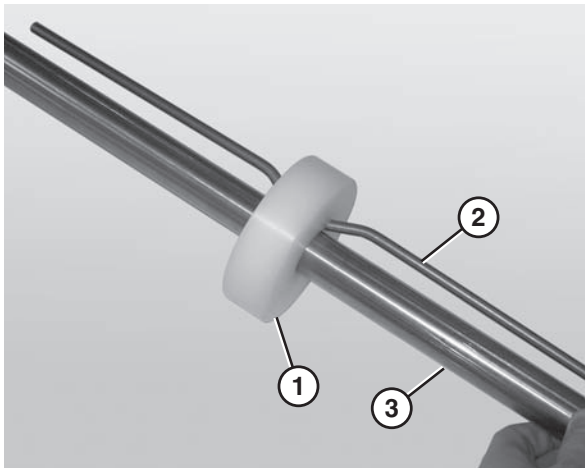

Figure 86
1. Place the idler puck (Figure 86, item 1) at the center of the bent retaining bar (Figure 86, item 2).
2. Slide the idler puck onto the idler shaft (Figure 86, item 3). Make sure to center the idler puck.